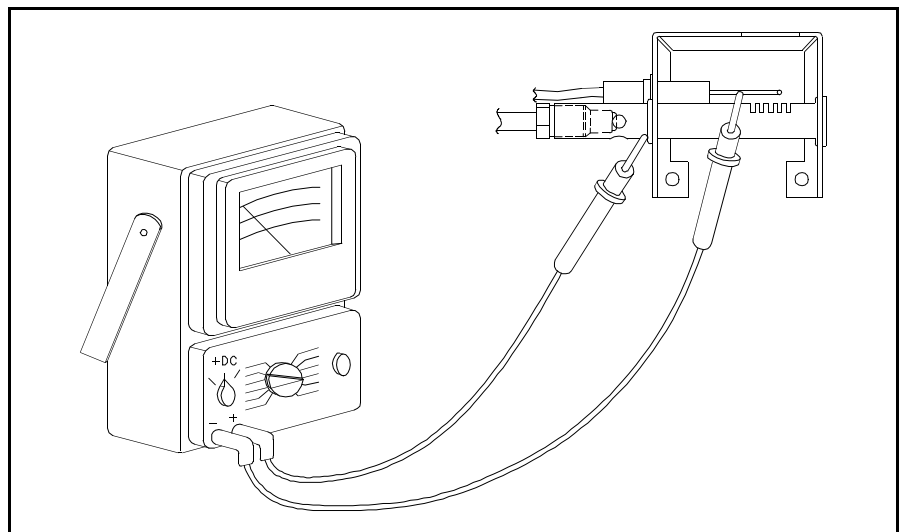

Figure 4.36 Ground Continuity Check
22. The electrodes should show an open circuit to ground as referenced in Figure 4.36. Check with meter as follows: